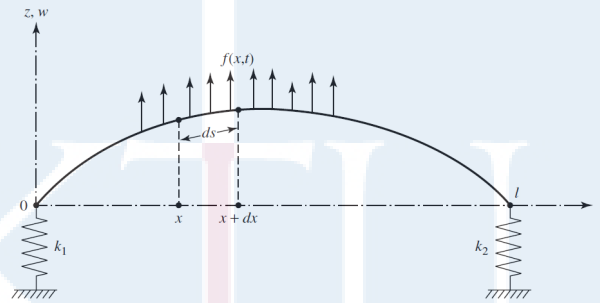

Fig.4
19. Fig. 4 shows a tightly stretched elastic string or cable of length l subjected to a distributed transverse force $f(x, t)$ per unit length. Obtain one dimensional wave equation